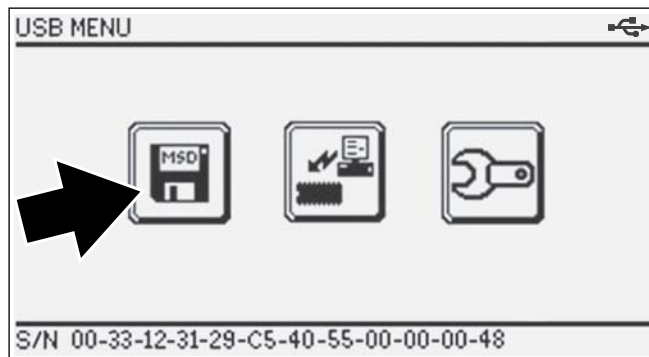

Figure 4-7 USB menu
The MICROSCAN III automatically powers up and displays the USB Menu (Figure 4-7).
2. Select the **Connect to PC** icon (Figure 4-7).